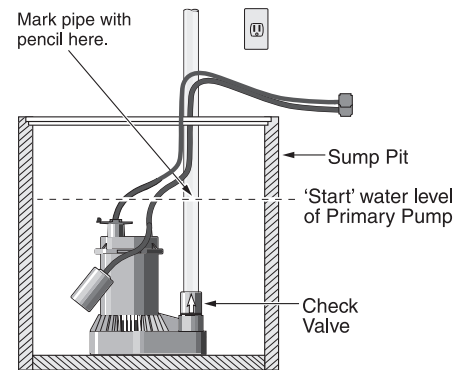

FIGURE 1: MARK PIPE AT 'START' WATER LEVEL
1. Locate the high water level in your sump pit (the water level at which the existing (primary) sump pump starts - see Figure 1). Turn off power to pump and mark this point on the discharge pipe with a pencil or marker.
1. Make the second cut in the discharge pipe at the pencil mark as shown in Figure 1. Clean the pipe ends with a cloth towel and set the cut-off piece of discharge pipe aside.